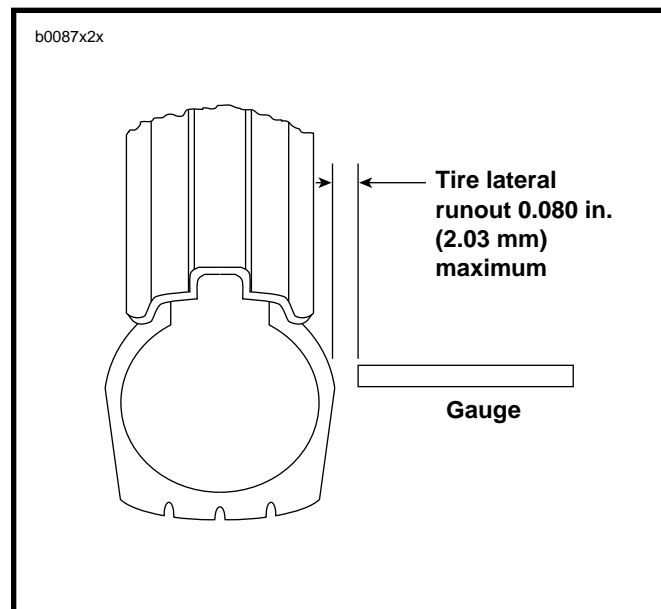

Figure 2-16. Checking Tire Lateral Runout
1. See Figure 2-16. Turn wheel on axle and measure amount of displacement from a fixed point to tire side-wall.